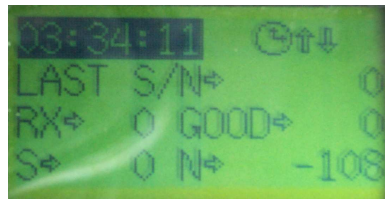

Figure 2
3. Hold **Center and Right** button for five seconds and release to **change time** using the ↓ arrow buttons (Fig. 2, Page 6). Press the **Center** button in any screen and it will return to the Home screen, where the rig appears.